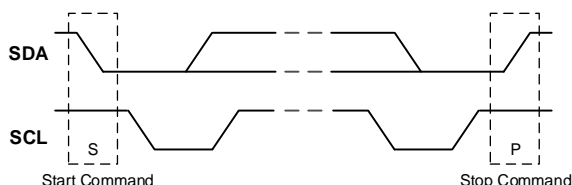

Figure 18: Start and Stop Commands
The start (S) command and stop (P) command are signaled by the master device, which signifies the beginning and the end of the I²C transfer. The start command is defined as the SDA signal transitioning from high to low while SCL is high. The stop command is defined as the SDA signal transitioning from low to high while SCL is high (see Figure 18).